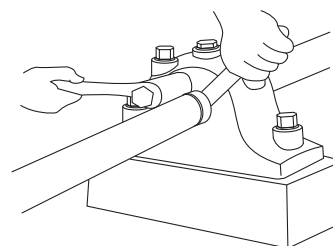

Figure 3
9. When considerable effort is required to turn adapter nut use hammer and brass bar on end of nut while simultaneously turning with wrench or barring rod (see Figure 3). When adapter seems to be tight, also use a hammer on the wrench while hammering simultaneously on end of adapter.